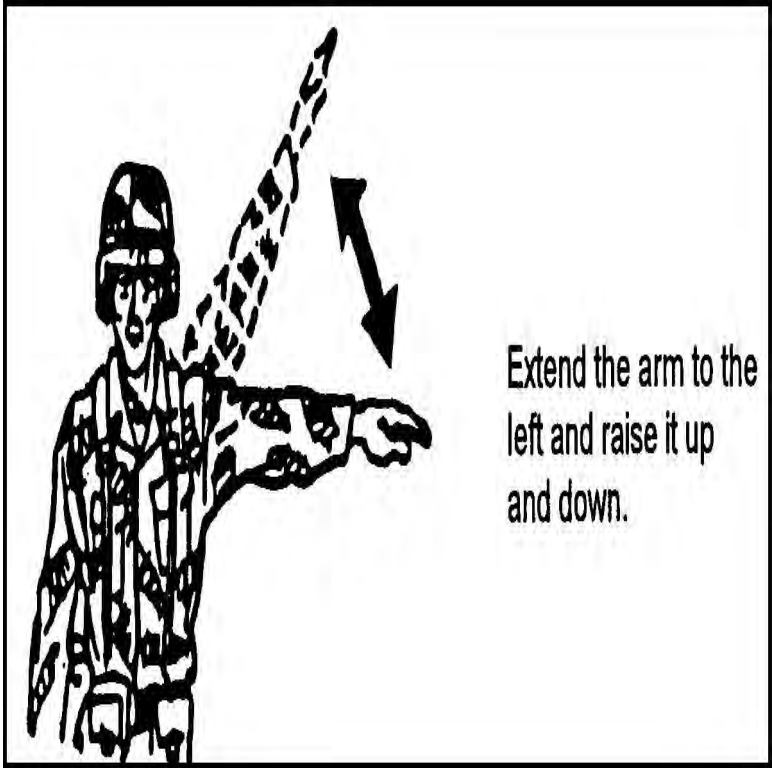

Figure 071-326-0608-13. Move to the Left.
b. Perform a move to the right signal (Figure 071-326-0608-14).